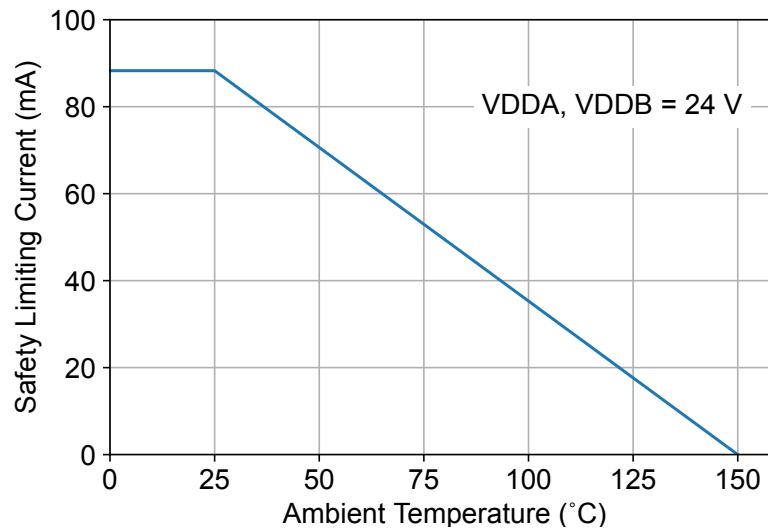
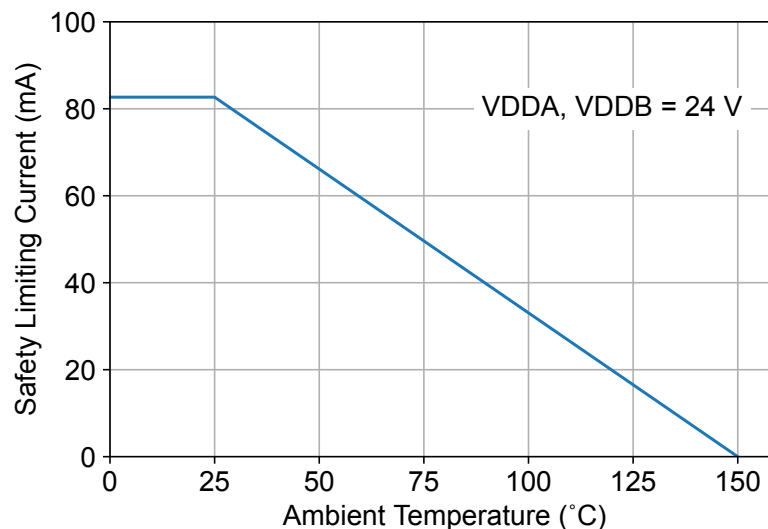

Figure 4.4. WB SOIC-14/16 Thermal Derating Curve, Dependence of Safety Limiting Values
Figure 4.5. NB SOIC-16 Thermal Derating Curve, Dependence of Safety Limiting Values
1. Maximum value allowed in the event of a failure. Refer to the thermal derating curves in <a href="#">Figure 4.4 WB SOIC-14/16 Thermal Derating Curve, Dependence of Safety Limiting Values on page 28</a> and <a href="#">Figure 4.5 NB SOIC-16 Thermal Derating Curve, Dependence of Safety Limiting Values on page 28</a> .